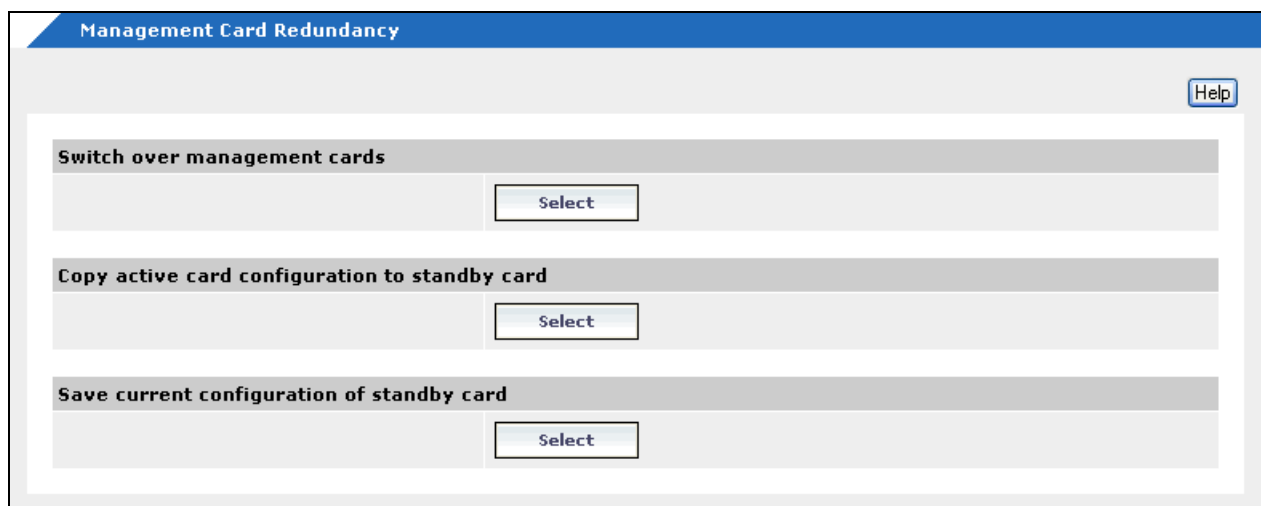

Figure 42. Management Card Redundancy Tab
1. Select **Management Card Redundancy** from the menu bar to display the tab in Figure 42.